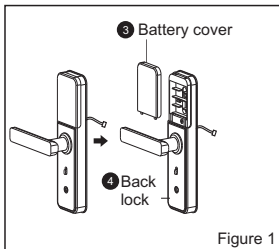

Figure 1
- As Figure 1:
- (1) Divide the Back Lock into Battery cover and Back panel.